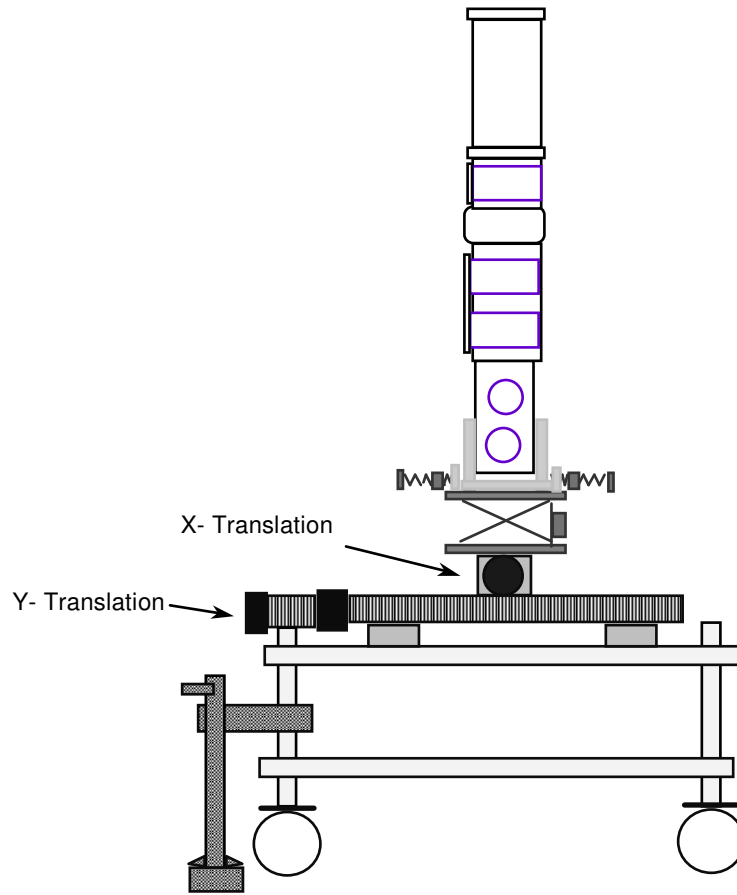

Figure 5. Quartz Block Assembly in RM Cart (not to scale)
- 6.4.2 Tighten the clamp on the QB until the vise is securely holding the QB. See Figure 5 for final configuration